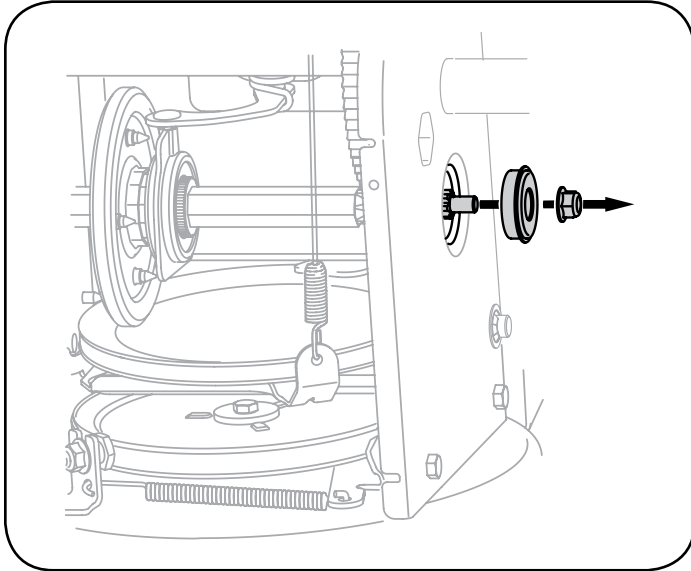

Figure 60
- Carefully remove the hex nut and washer which secures the hex shaft to the snow blower frame and lightly tap the shaft's end to dislodge the ball bearing from the right side of the frame. See Figure 60.